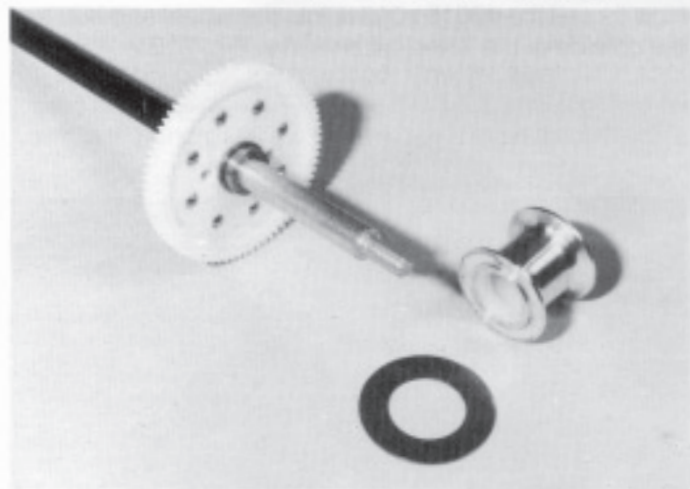

Fig. 64
□ **Fig. 64** Now pick up the rear axle assembly as before and place the second #6625 drive ring over the hub onto the axle. Now slip the #4359 right hand wheel/diff spacer onto the axle (bearing adapter side first) making sure that you center the drive ring so that the wheel/diff spacer will seat correctly. Remember the wheel/diff spacer has to seat on the bearing as well as the drive ring.